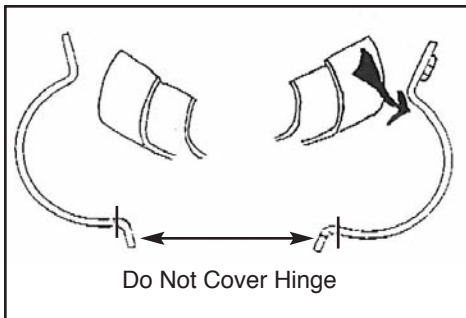

Figure 3
5. Remove paper backing and apply the required Gasket(s) to each Clamp half. **Do Not Apply Gasket Over Hinge. Figure 3**